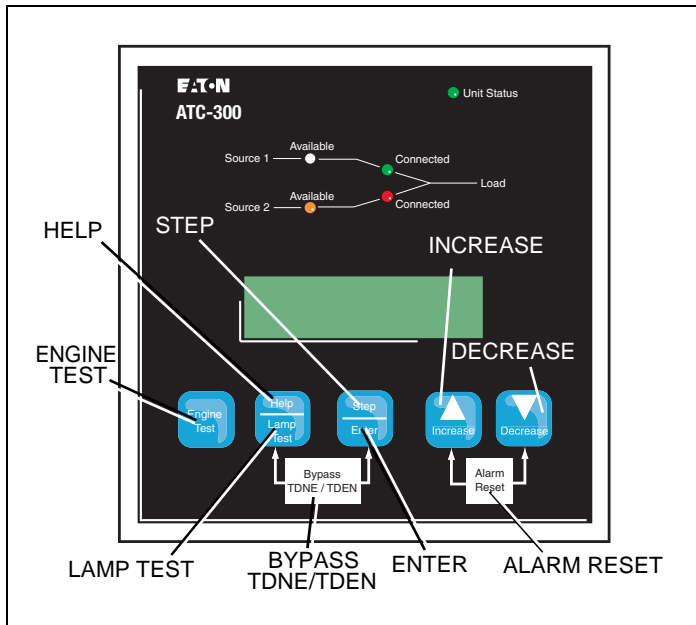

Figure 44. ATC-300 Pushbuttons
Step 8: Manually start the engine generator at the generator controller (Figure 44). Check that the generator is running and the *Source 2 Available* amber LED is lit. Press the **<Step/Enter>** pushbutton, step through the phase voltages, frequency, and message display. If the source message indicates that the source is Good, shut down the generator and place the Genset controller in the Auto-operating position. If the message indicates a problem with the source, the setpoints should be reviewed and the generator checked for proper voltage and frequency output.